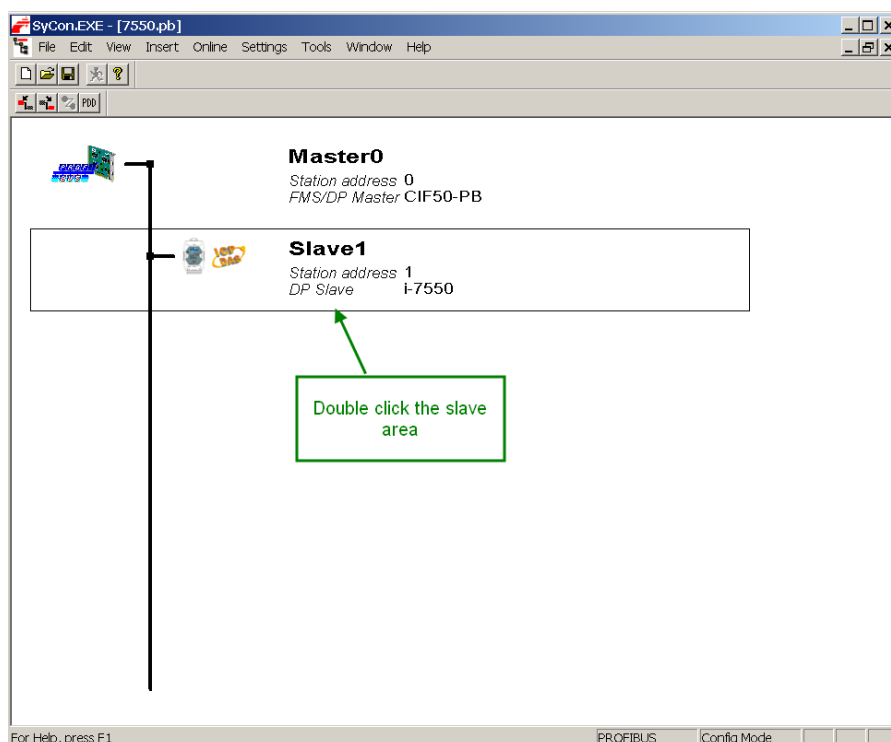

Figure 18: Graphic window
Step 3: Open the “Slave Configuration” window by double clicking the modules icon (*Figure 18*)